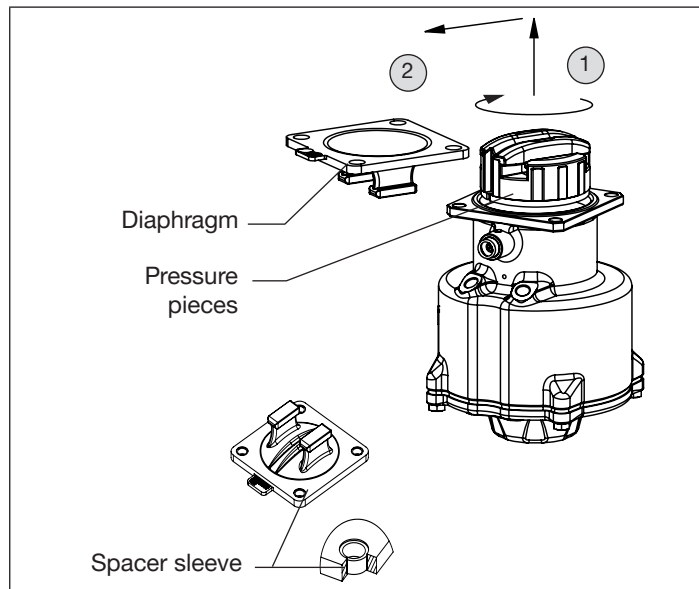

Fig. 19: Disassembly / assembly the diaphragm
- Insert the diaphragm into the guide of the pressure pieces. Make sure that the four spacing sleeves are installed (see “Fig. 19”).